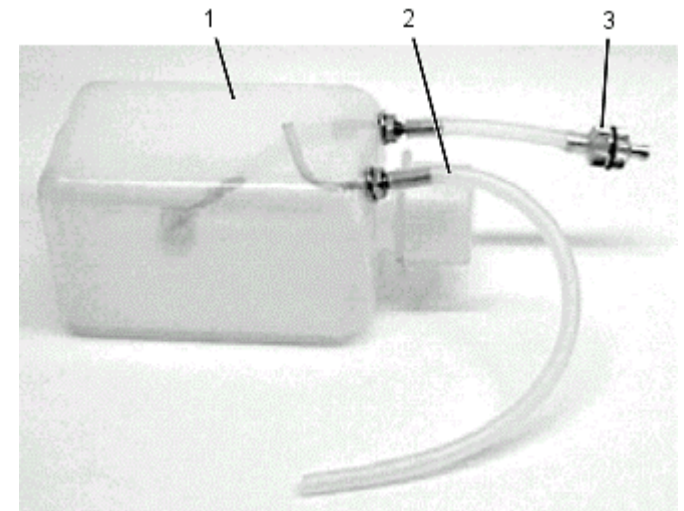
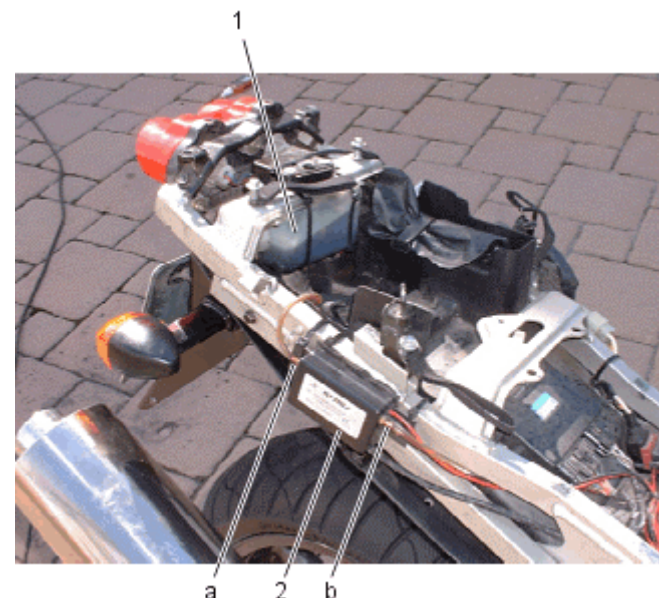

Figure 2 Lubricant tank and connections
Figure 5 Example of Fixing the Oil Tank and Electronic Control Box
- and the following parts (Figures 2 to 4):
3. Route the breather tube (2, Figure 2) above the oil tank and fix using cable clips. For additional security fix the clips with instant glue.
4. Use the tubing to connect the oil filter (3, Figure 2) with the flow control valve and the flow control valve with the entry connection of the electronic control box (2a, Figure 5). Push the tubing firmly home on the connection nipple.
6. Firmly push the upper end of the tube onto the exit connection of the electronic control box (2b, Figure 5).